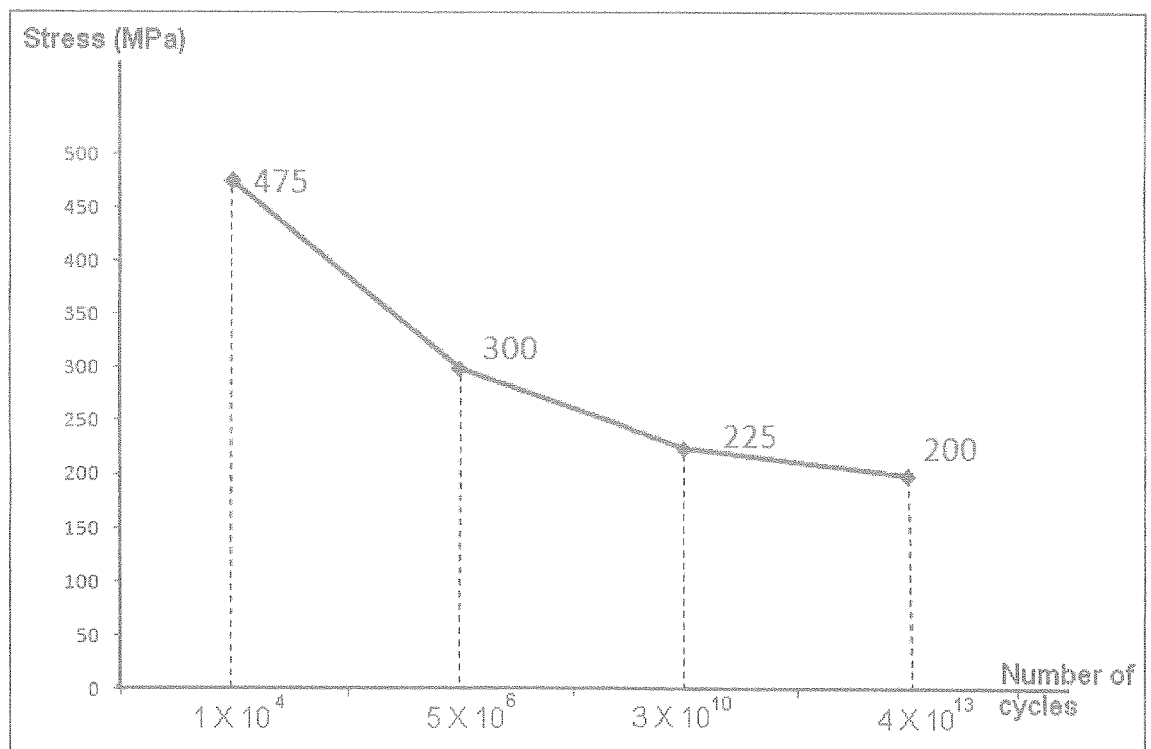

Figure Q3
d) Figure Q3 shows a part of S-N curve of a Metallic material. Rotating shaft of a machine was fabricated by this metallic material. The shaft was operated as follows.